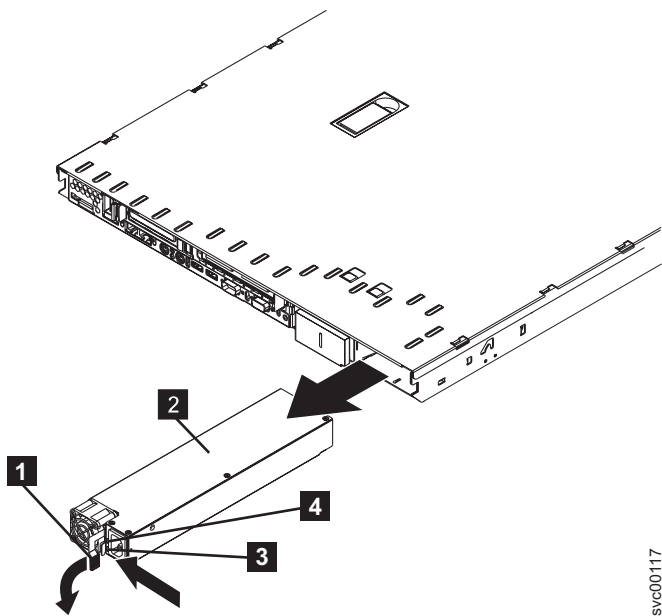

Figure 154. Removing the SAN Volume Controller 2145-8F2 power supply
4. From the rear of the node, as shown in Figure 154, push the orange release lever to the left and then push down on it to release the power-supply assembly. This will move the power supply back, slightly, for easy removal.